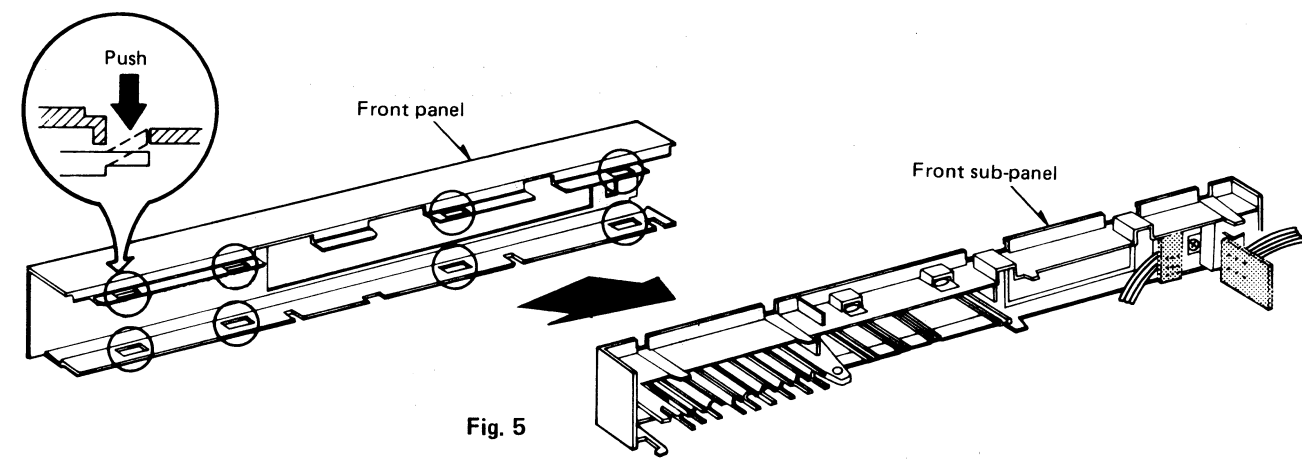

Fig. 5
3. The claws projected (at 8 portions) from the front sub-panel are engaged with the front panel. Disengage the claws from by screwdriver or the like to remove the front sub-panel. (See Fig. 5)